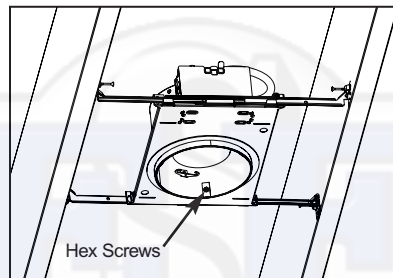
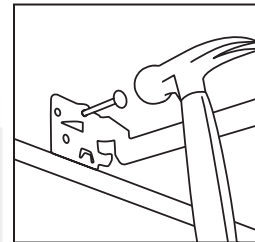

Figure 2
Figure 3
Step 1. Extend bar hangers to fit between joists. Bar hanger foot is contoured to easily align with bottom of joist (Fig. 2). Position fixture by hammering Real-Nails® into joists (Fig. 3).
Step 4. When installing in drywall, cut appropriate sized hole.* After installing drywall, if necessary, adjust fixture for ceiling thickness by loosening the three hex screws that attach the round housing to the plaster frame (Fig. 2).